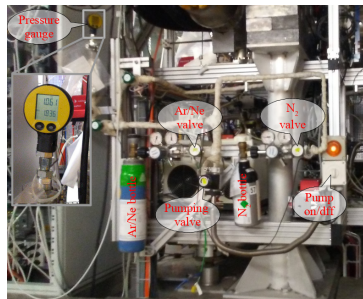

Figure 4.4: View of the gas inlet tubes and pumping system
2. Pump and flush the gas pipes, shown in Fig. 4.4, in order to make sure that there are no residual gases. Use the small electronic pressure gauge attached to these pipes (marked in Fig. 4.4) to monitor the pressure in the gas inlet tubes. This gauge may be off and can be turned on by simply pressing on the little black button of the right side of its display.